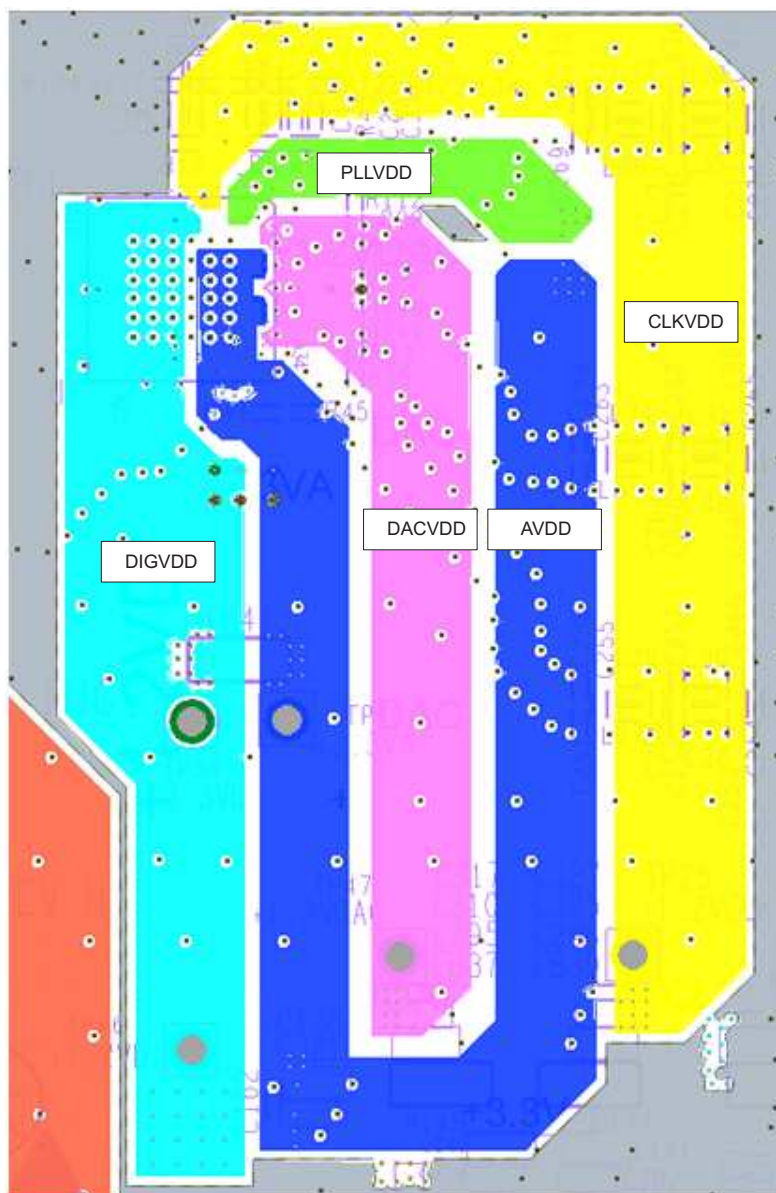
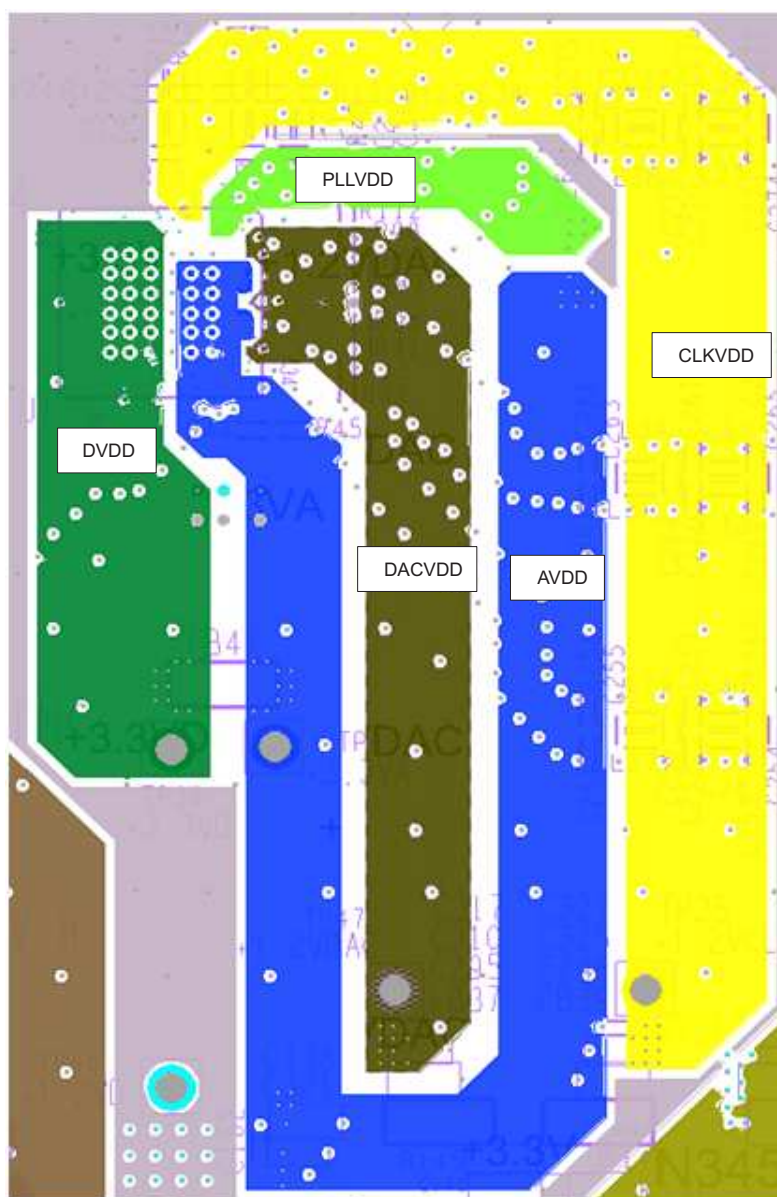

Figure 101. Third Layer of DAC3484 Layout Showing Power Layers. Layout Example from DAC3484EVM Rev H
Figure 102. Fourth Layer of DAC3484 Layout Showing Power Layers. Layout Example from DAC3484EVM Rev H
The following layout guidelines correspond to the layouts shown in Figure 101 and Figure 102.
2. As shown in Figure 101 and Figure 102, both layers three and four are designated for power supply planes. The DAC analog powers are all in the same layer to avoid coupling with each other, and the planes are copied from layer three to layer four for double the copper coverage area.